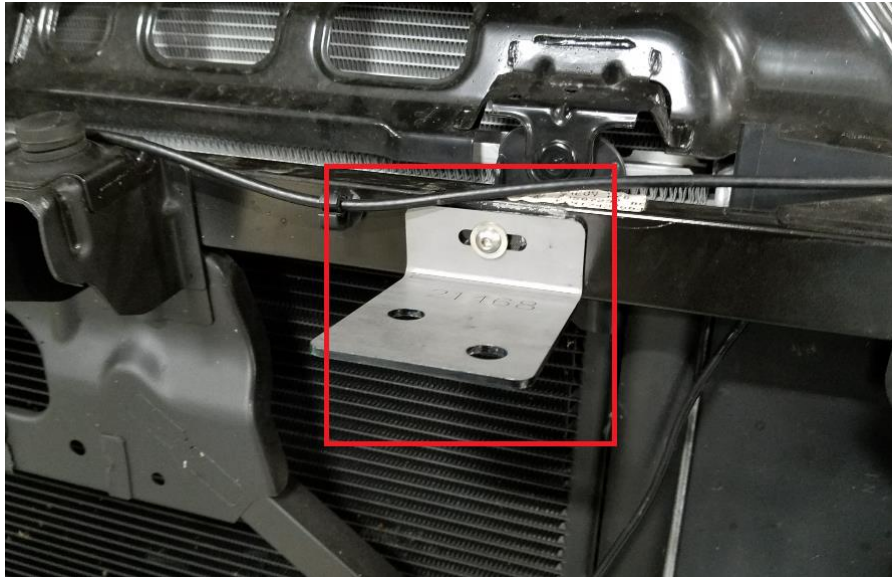

Figure 16
- C. Install the 2 loose brackets to the metal frame under the hood (Figure 16). Use $\frac{1}{4}$ " bolt in the hole you drilled out in Step L of the Bumper removal. Leave the bolt loosely tightened for mounting of the center grill section.